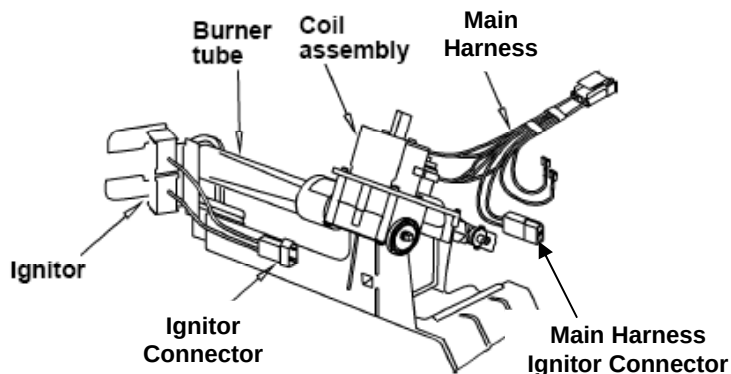

FIGURE 3
10. Disconnect ignitor connector from the main harness ignitor connector. See *Figure 3*.
13. Put the burner tube back on the burner assembly. Securely tighten the two (2) mounting screws. Reconnect the ignitor to the harness. See *Figure 3* and *4*.